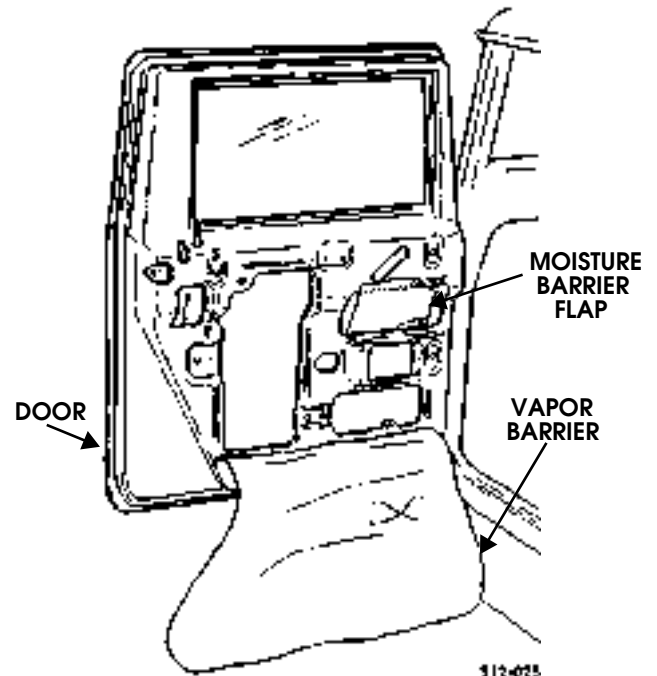

Figure 10-62: Vapor Barrier and Moisture Barrier Flap
6. Remove vapor barrier and moisture barrier flap from door (Figure 10-62).
8. Install moisture barrier flap and vapor barrier on door (Figure 10-62).